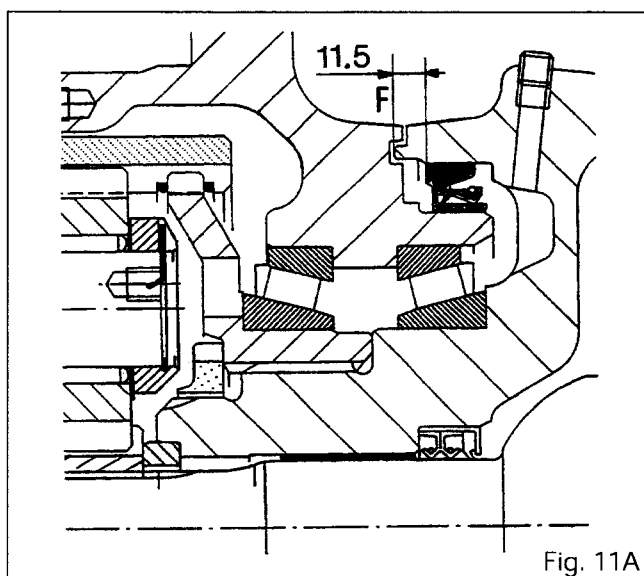

Fig. 11A
- Axles AG 85, AG 105, AG 125 and AG 155: 11.5 from face F (Fig. 11A).